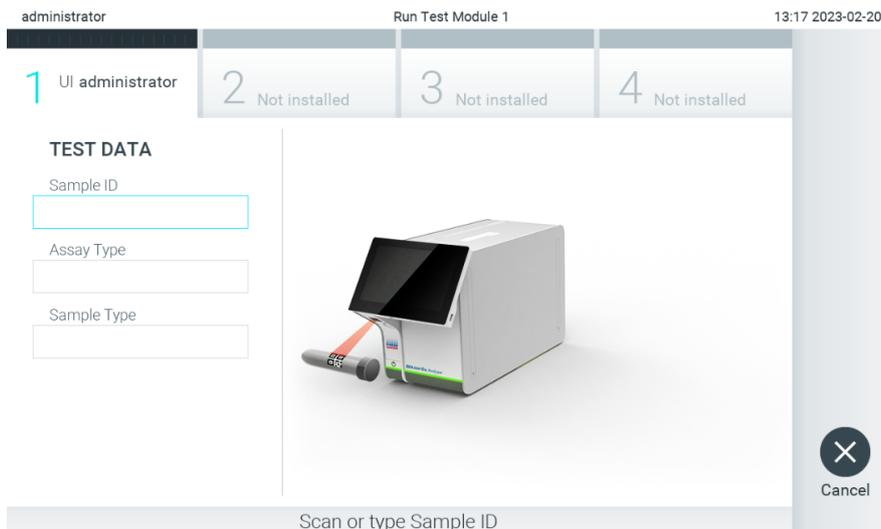

Figure 85. Scanning the sample ID bar code
2. When prompted, scan the sample ID bar code using the bar code reader that is integrated into the Operational Module (Figure 85).